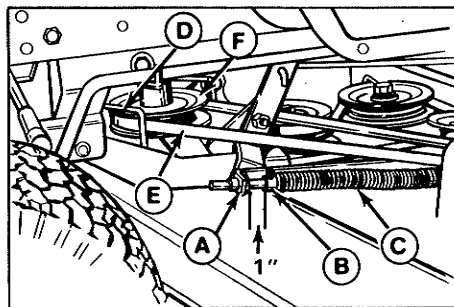
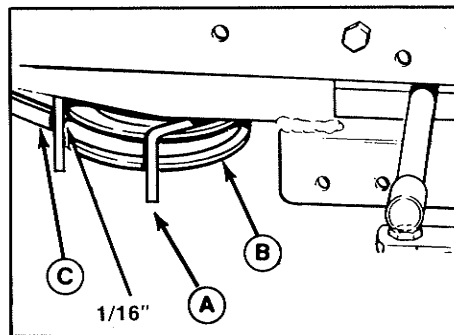

Figure 31. Mower Drive Belt Tension Adjustment - 42" & 48"
Figure 32. Right-Hand PTO Pulley Belt Stop
- Measure the distance between the PTO rod guide (A, figure 31) and the set collar (B). The distance should measure one inch. If not, proceed to step 3.
- Loosen the setscrew in the set collar (B). Move the rod forward to increase gap, or backward to decrease gap. Retighten the setscrew.
There are two belt stops at the PTO pulley; one on the left (D, figure 31) and one on the right (A, figure 32). With the PTO lever engaged, measure the distance between the belt stop and belt. There should be 1/16 inch (1.5 mm) clearance between each belt stop and the belt. To adjust a belt stop, loosen its mounting capscrew, move the belt stop, and retighten the capscrew. Recheck the measurement.